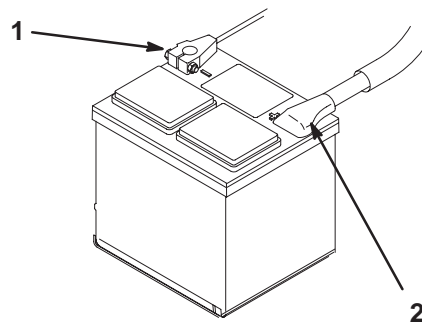

Figure 12
8. First, install the positive cable (red) to the positive (+) terminal and then the negative cable (black) to the negative (–) terminal of the battery (Fig. 12). Slide the rubber boot over the positive terminal to prevent a possible short from occurring.